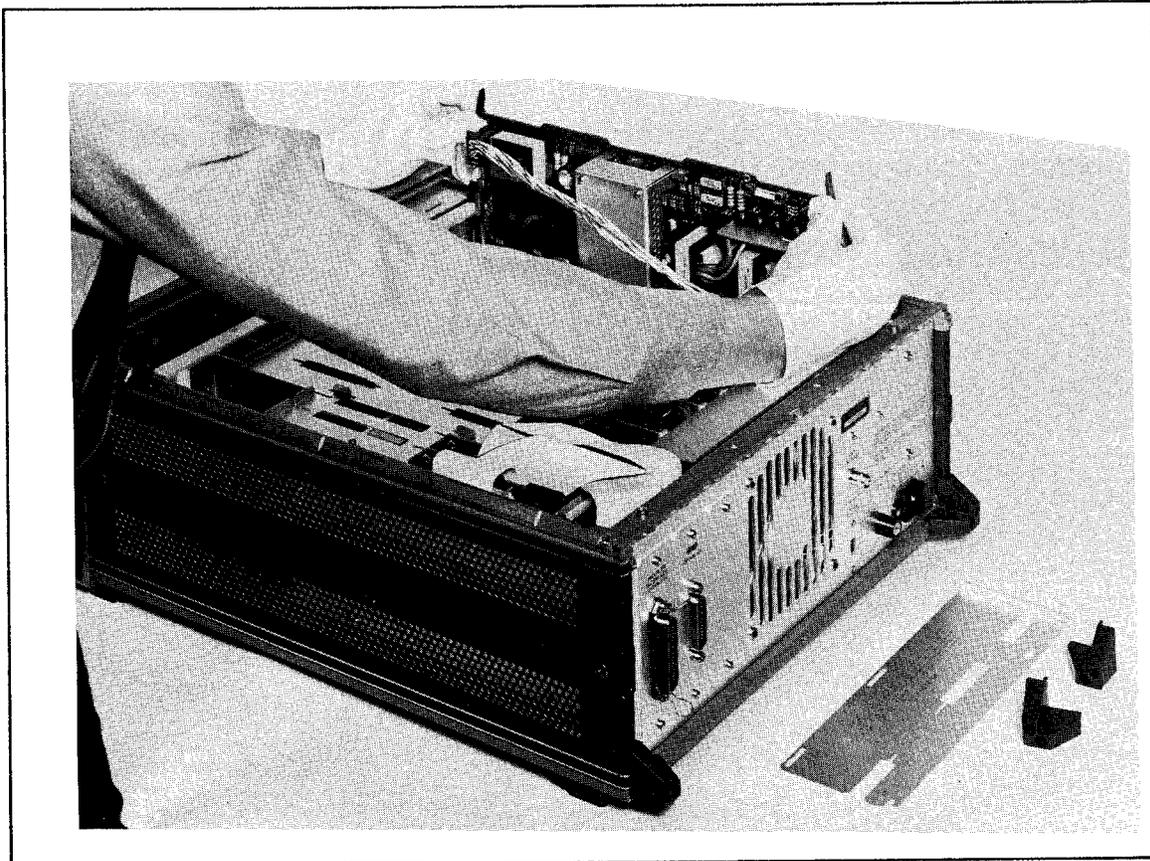

Figure 4-1. A1 Assembly Removal
3. Lift the black and the brown board extractors at the top corners of the A1 assembly as shown in Figure 4-1.